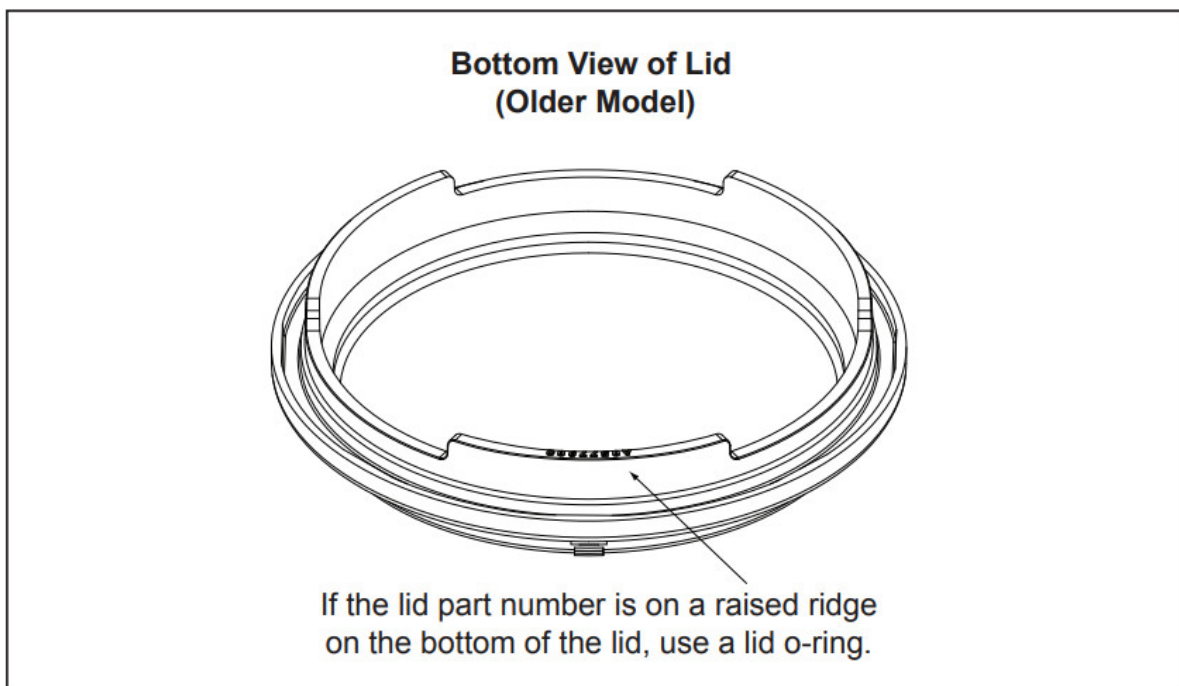

Figure 2. Older Model Lid
- a. If the part number is on the bottom of the lid (see Figure 2), the pump is an older model and uses a lid o-ring. Go to Step 2.